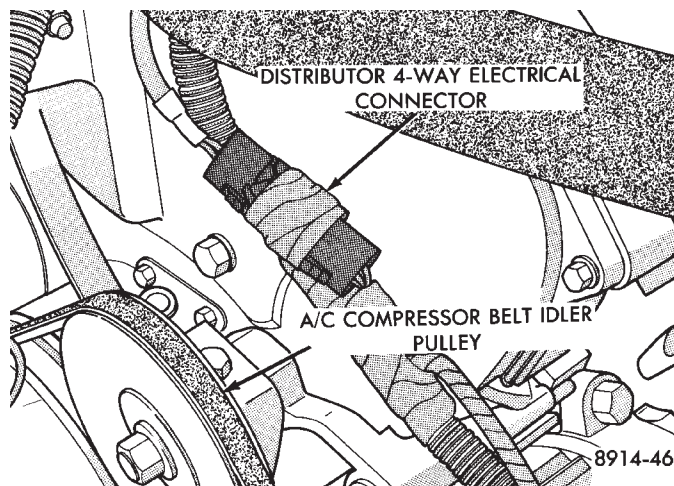

Fig. 7 Distributor Connector
(11) Verify the distributor connector is connected to the harness connector (Fig. 7).